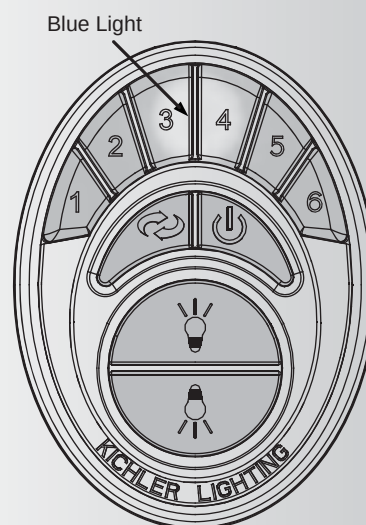

Fig. 23
The Frequency Selector is a "Dip Switch Block" inside the Battery compartment of the Transmitter. (See figure 23) You change frequencies by arranging the small switches numbered 1 through 4 in a up or down position. 16 possible frequencies or combinations are possible.
3. Test the transmitter by pushing and releasing ANY button briefly. A Blue Light should illuminate under the 3-4 buttons. (Fig. 23) If not, check to make sure the batteries are inserted and seated correctly.